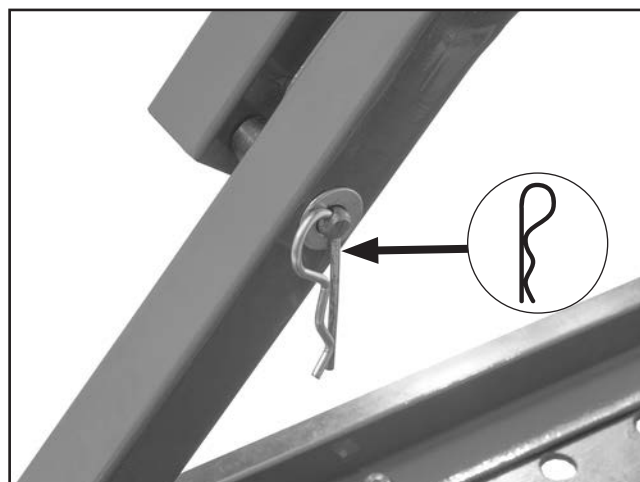

Figure 5. Cotter pin inserted through hinge pin.
5. Secure fasteners by inserting 3.5 x 75mm cotter pin through hinge pin hole (see **Figure 5**).